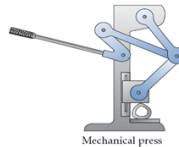

Figure 1
- (b) Apply the Grubler's criterion to the machine shown in Figure 1 and check the mobility. [7M]